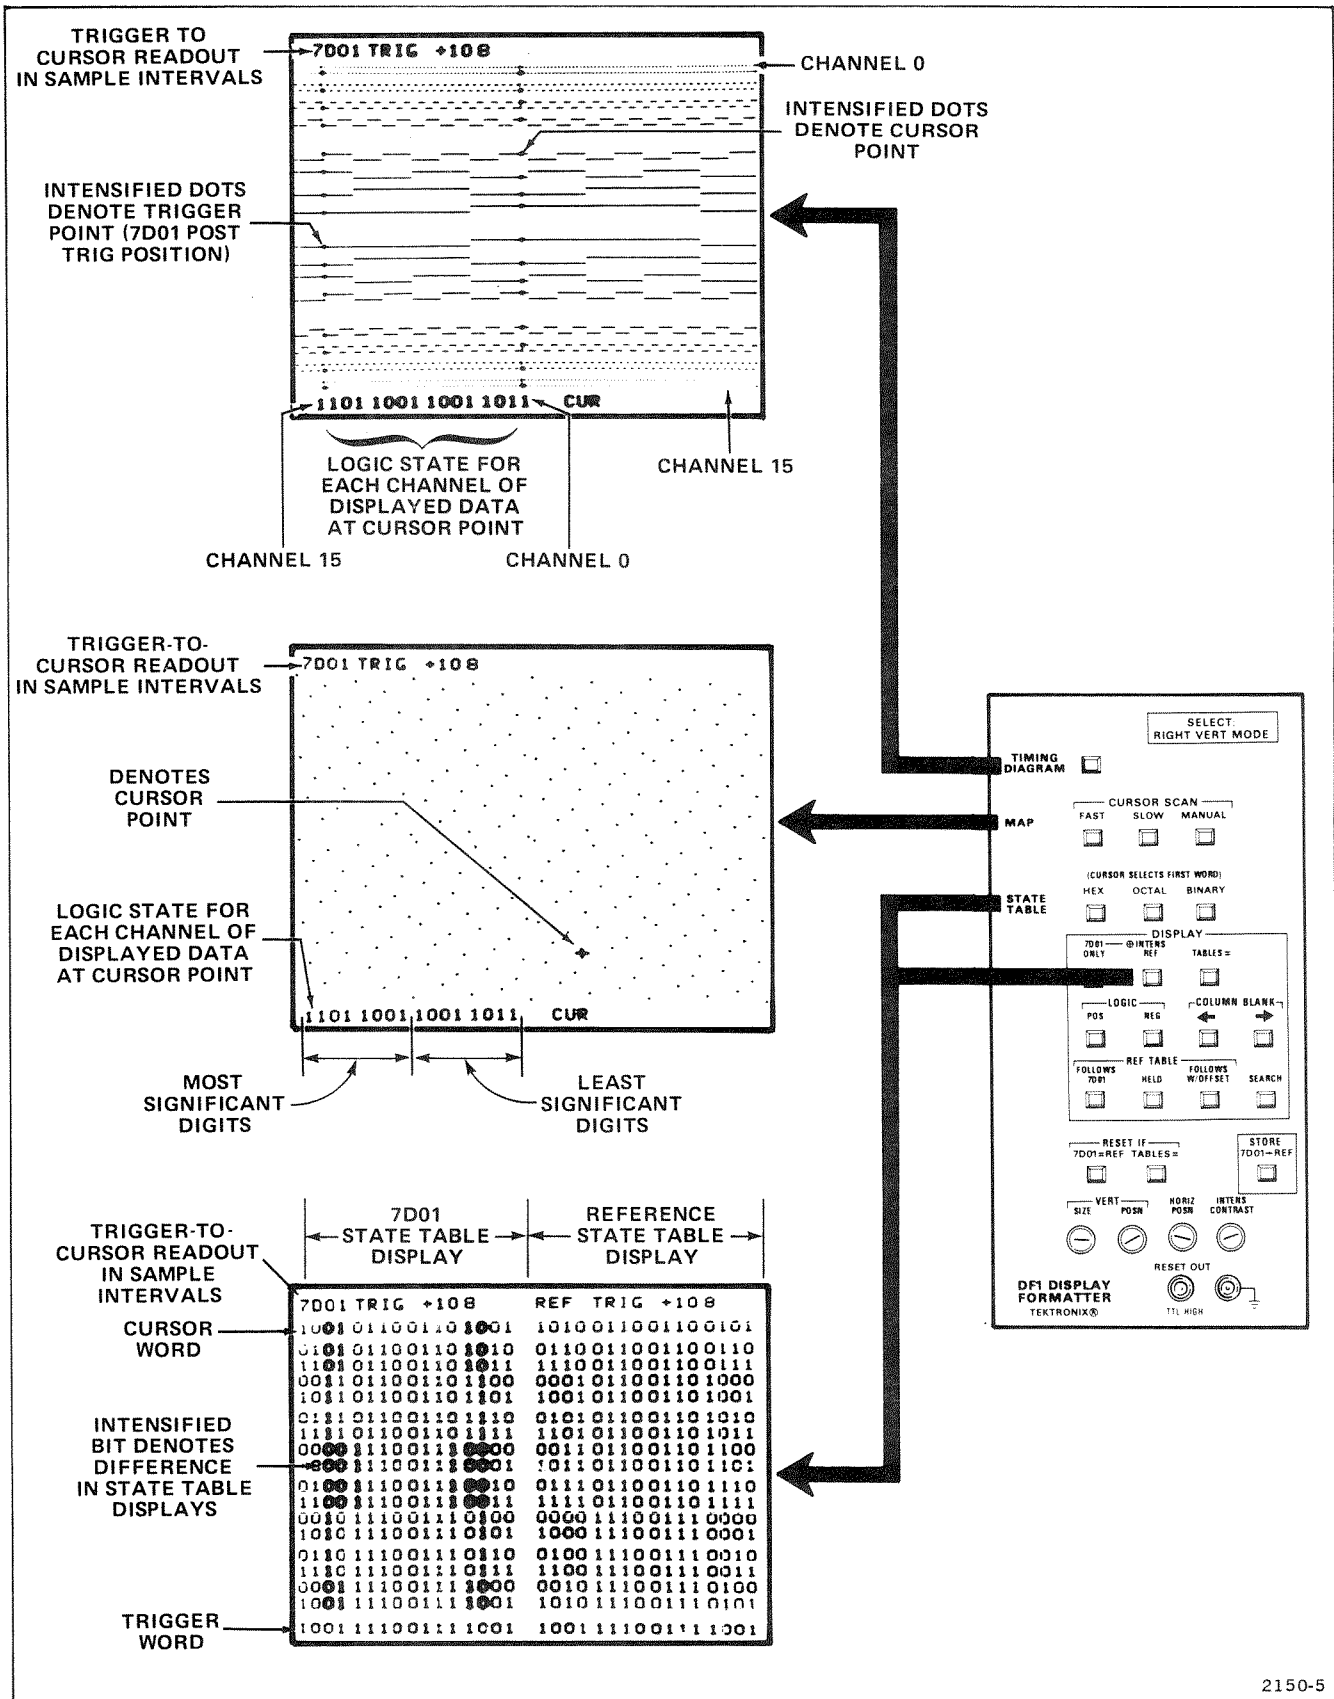

Figure 2-3. Typical DF1 Display Modes.
The DF1 displays digital data in 3 Display Modes: Timing Diagram, Map, and State Table. Figure 2-3 shows the controls required to activate typical DF1 displays.
The front-panel TIMING DIAGRAM push button selects the Timing Diagram display (4, 8, or 16 channels) from the companion 7D01 Logic Analyzer (see Fig. 2-3). The cursor function of the 7D01 provides an intensified zone on the data display and a corresponding numerical readout display shows the logic state for each displayed channel of data. The position of the cursor, relative to the trigger, is also displayed on the crt readout. Refer to the 7D01 manual for more information on the 7D01 Logic Analyzer.
The Map function provides a view of the 7D01 memory displayed as x-y coordinate dots on the crt. The vertical axis represents the most significant half of the data word and the horizontal axis represents the least significant half (see Figure 2-3).
displayed. If the trigger word is displayed in the first 17 words of the state table, it is indicated by a blinking condition. The position of the cursor, relative to the trigger, is also displayed on the crt readout (see Figure 2-3).
7D01 \odot INTENS REF. Two state tables are displayed simultaneously on the crt. The state table from the 7D01 is displayed on the left half of the crt and a reference state table is displayed on the right half of the crt (see Figure 2-3). When the 7D01 \odot INTENS REF is initially selected, the STORE 7D01 \rightarrow REF push button must be pressed to load the reference memory. Any differences between the 7D01 and reference state tables are indicated by intensified bits at the appropriate location in the 7D01 state table. Any differences in the state tables due to old data, indeterminate data, end data, or blanked columns, is interpreted as "don't care" conditions and are not intensified in the 7D01 state table (refer to the Glossary in the General Information section). If there are no differences between state tables, the TABLES= indicator is illuminated.
2. Check crt display for a 16-channel timing diagram (refer to Fig. 2-3). It may be necessary to adjust the mainframe